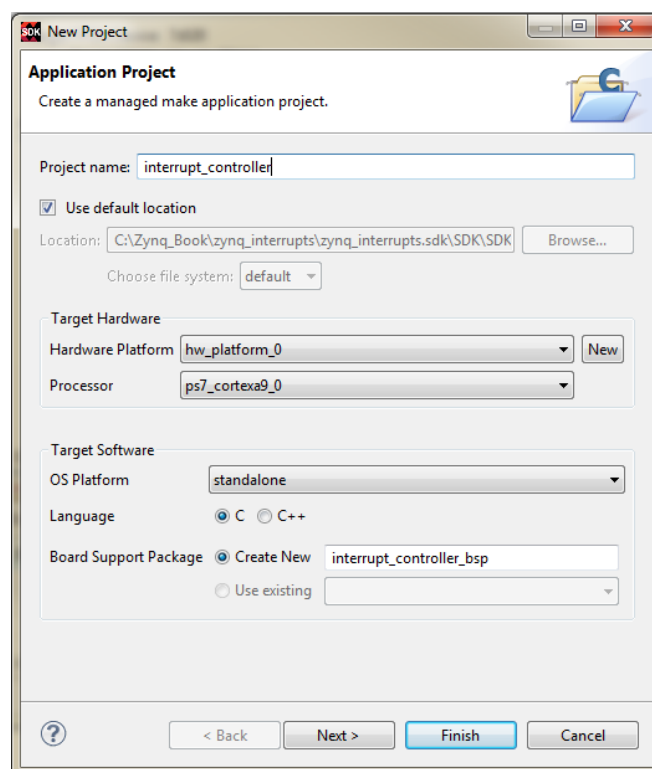

Figure 2.20: New Application Project dialogue
- The *New Project* dialogue window will open. Enter ***interrupt_counter*** in the *Project name* field, as shown in Figure 2.20, keeping all other options with the default settings. Click ***Next***.